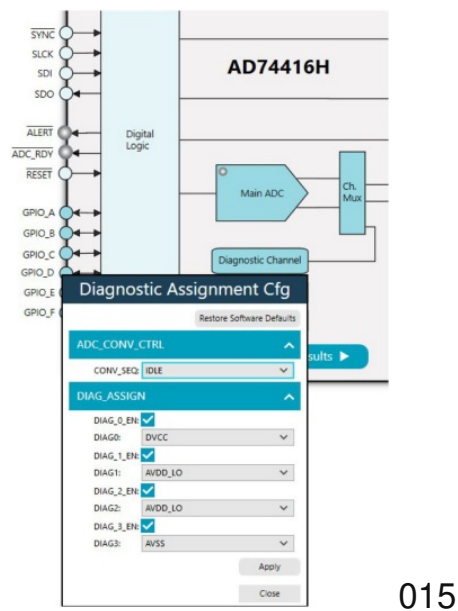

Figure 15. Assigning Diagnostic
- 1. Click the **Diagnostic Channel** button to choose the diagnostic to measure. A Diagnostic Assignment Cfg window appears, as shown in Figure 15. In the **ADC_CONV_CTRL > CONV_SEQ** area, select ADC in **IDLE** mode, once changes to ADC configuration complete.